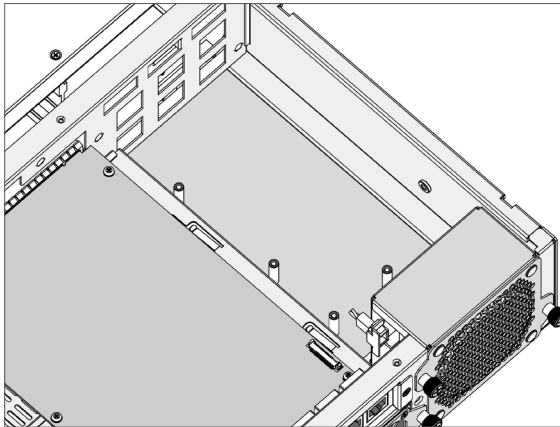

Figure B-2, Removing the Cover
1. Loosen the screws and remove the cover from the ARC-7308/ ARC-7312 enclosure, as shown in Figure B-2.